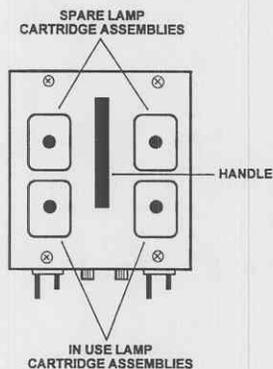
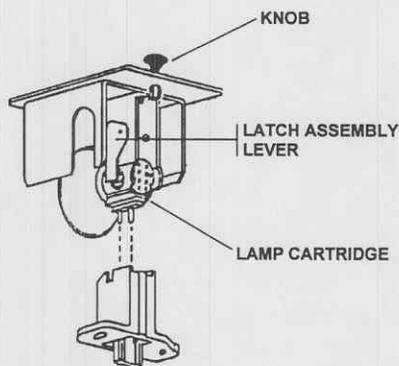

Figure 3-2. Lamp cartridge assemblies locations.
Figure 3-3. Lamp cartridge assembly.
- (3) Grasp the knob on the burned out in use lamp cartridge assembly (fig 3-2) and pull it upward to remove it from the top of the endoscopic instrument light. Set the lamp cartridge assembly aside (fig 3-3).